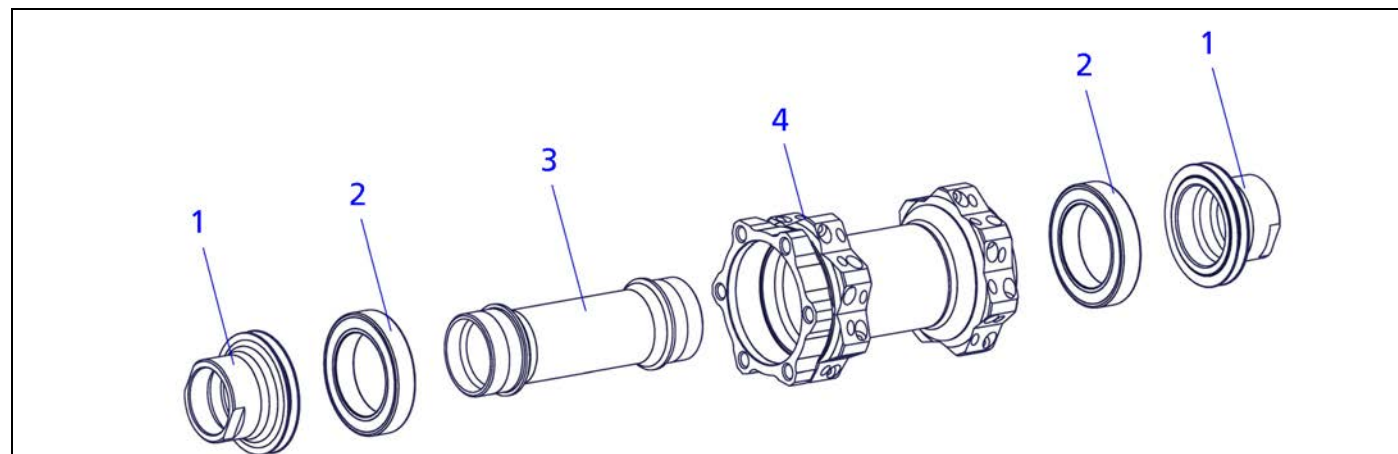

Figure 3-2: 240 Oversize
1. Loosen the end caps (fig. 3-2/1) using a wrench and remove it from the axle.
1. Slide the disassembly tool onto the axle (fig. 3-2/3).
2. Tap the bearing (fig. 3-2/2) and the axle out of the hub shell using the disassembly tool and a hammer.
2. Put the axle (fig. 3-2/3) onto the mounting tool.
4. Slightly grease the bearing (fig. 3-2/2) and put it onto the disc side with the colored side facing outwards.
1. Grease the bearings and the inner surface of both end caps (fig. 3-2/1).
2. Screw on both end caps (fig. 3-2/1) by hand.
3. Tighten the end cap (fig. 3-2/1) with 15 Nm using a wrench.